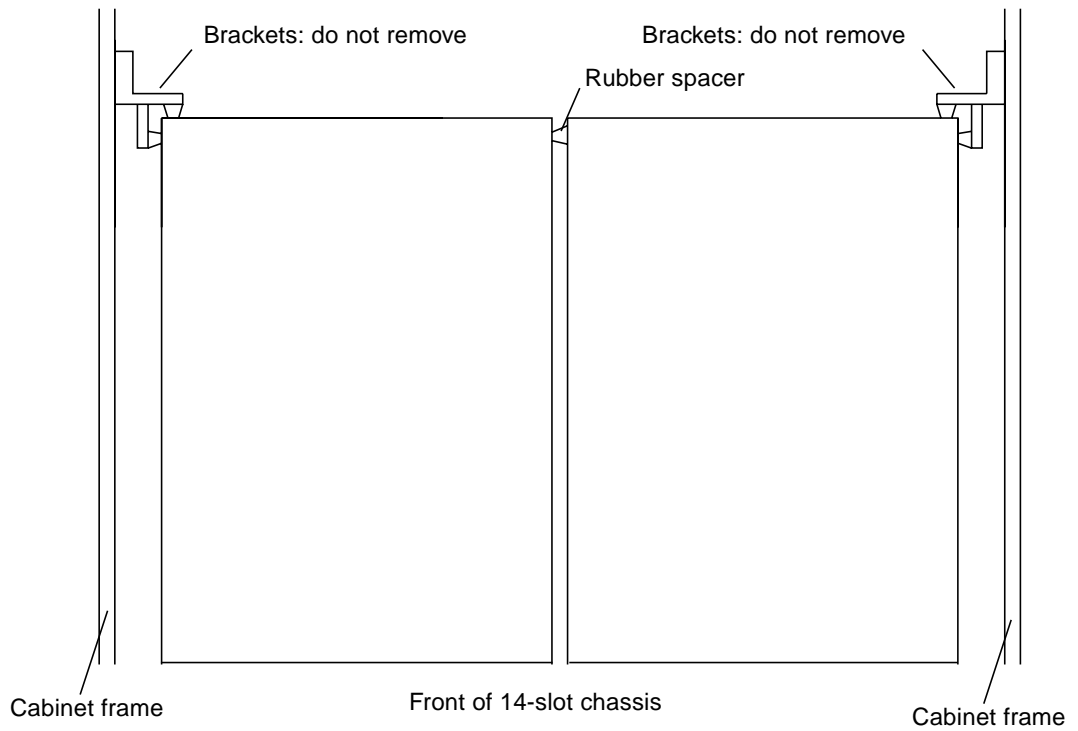

FIGURE 6-35 Chassis Brackets and Rubber Spacer
5. **Go to the rear of the cabinet. Note that there is a small rubber spacer between the two 14-slot chassis at the top, as shown in FIGURE 6-35. Grip this spacer with needlenose pliers and keep for chassis replacement.**
3. Using needlenose pliers, replace the rubber spacer shown in FIGURE 6-35.